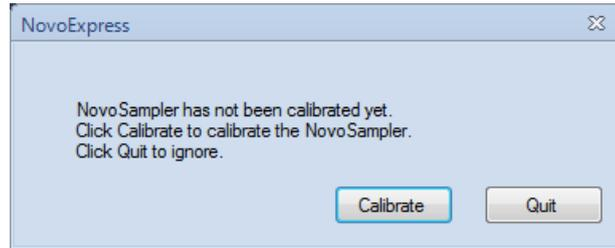

Figure 1-9 Dialog Box to Indicate NovoSampler Pro Calibration
- 5 Power on the NovoCyte Flow Cytometer by pressing the power button  on the instrument. Start the NovoExpress Software by double-clicking the icon  from the workstation desktop. The software will display a dialog box requesting to calibrate the NovoSampler Pro, as shown in Figure 1-9. Click *Calibrate* to start the calibration of the NovoSampler Pro. Calibration can be postponed, but the software will not allow for samples to be collected until a calibration is performed successfully. To manually start the NovoSampler Pro calibration, click the *Instrument* → *NovoSampler Pro* → *Calibrate* on the NovoExpress software.
-  If the NovoCyte is already powered on, ensure NovoExpress is launched, click **Instrument** → **NovoSampler® Pro** → **Power Up** in NovoExpress software main window to power on the NovoSampler Pro (Figure 1-10). The software will prompt a dialog box requesting to restart the NovoExpress software, as shown in Figure 1-11. Click **Yes** to restart the software. After log in the software, software will prompt to calibrate the NovoSampler Pro as shown in Figure 1-9. User can click *Calibrate* to calibrate the NovoSampler Pro.